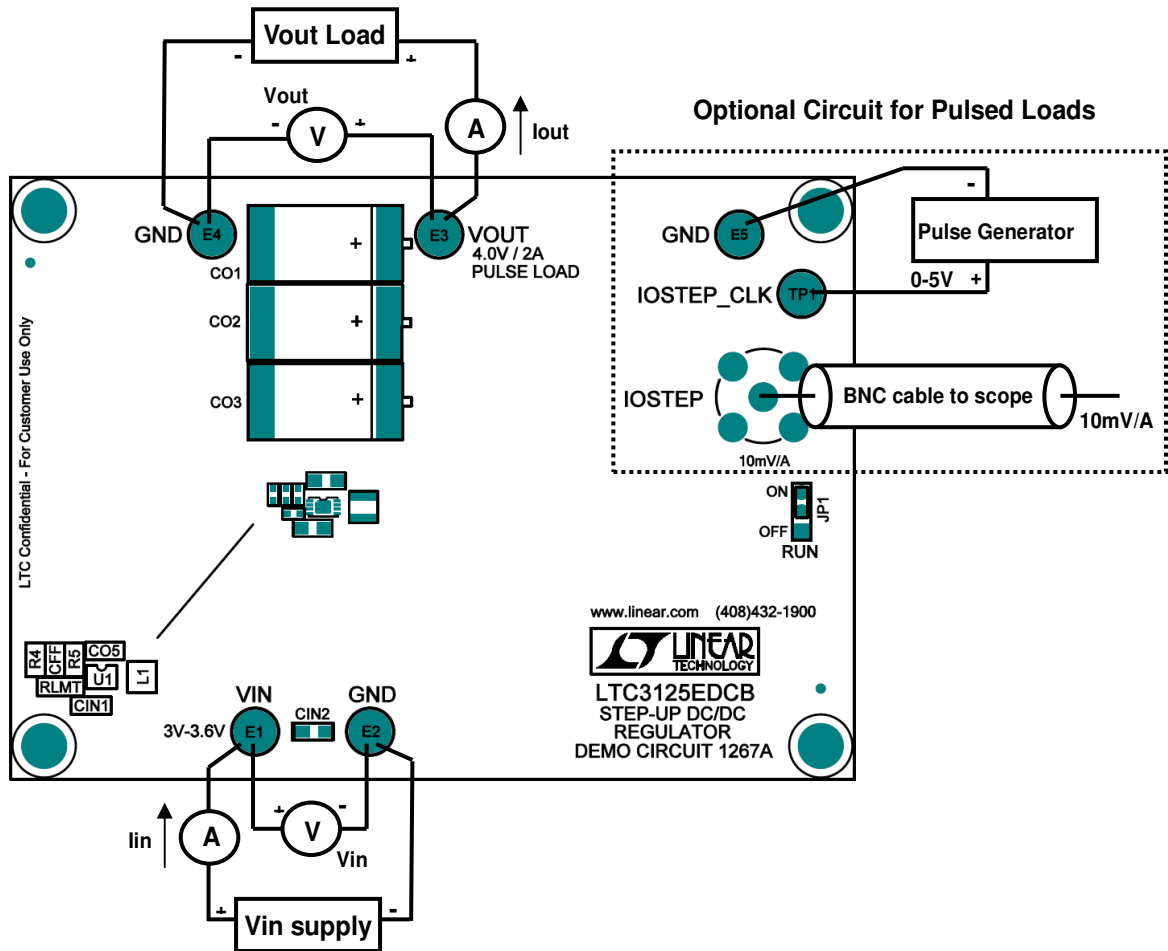

Figure 1. Proper Measurement Equipment Setup
Demonstration circuit 1267A is easy to set up to evaluate the performance of the LTC3125EDCB. Refer to Figure 1 for proper measurement equipment setup and follow the procedure below:
Demonstration circuit 1267A can be setup for simple evaluation of pulse loads – please see optional circuit in Figure 1 for proper setup. The circuit is capable of pulsed load of up to 2A with duty cycles up to 15%. Starting from step 5 in the quick start procedure above, follow the procedure below:
4. A pulse generator with adjustable amplitude is connected between IOSTEP\_CLK and GND as indicated in Figure 1. The pulse generator should be capable of generating up to 5V pulses. Adjust the period and duty cycle of this signal to match that of the required load prior to attaching the pulse generator.